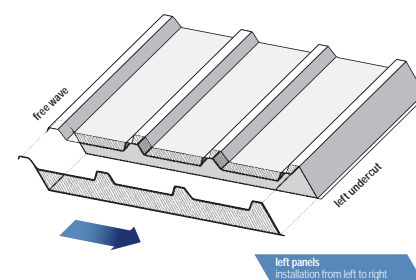

fig. 14
- Roof panels installed from the left side to the right one (empty „hump“ on the left) - **left undercut**. (fig. 14).